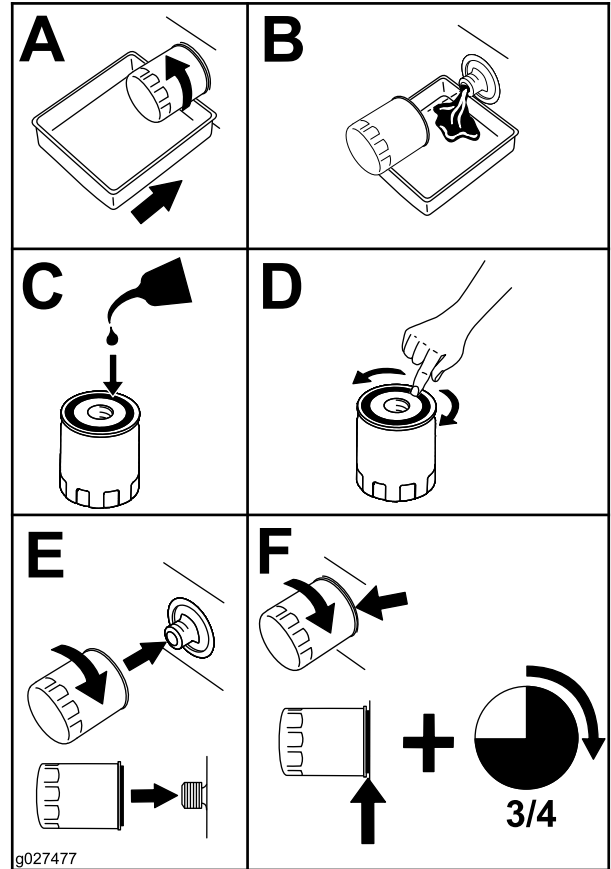

Figure 39
2. Change the engine-oil filter (Figure 39).